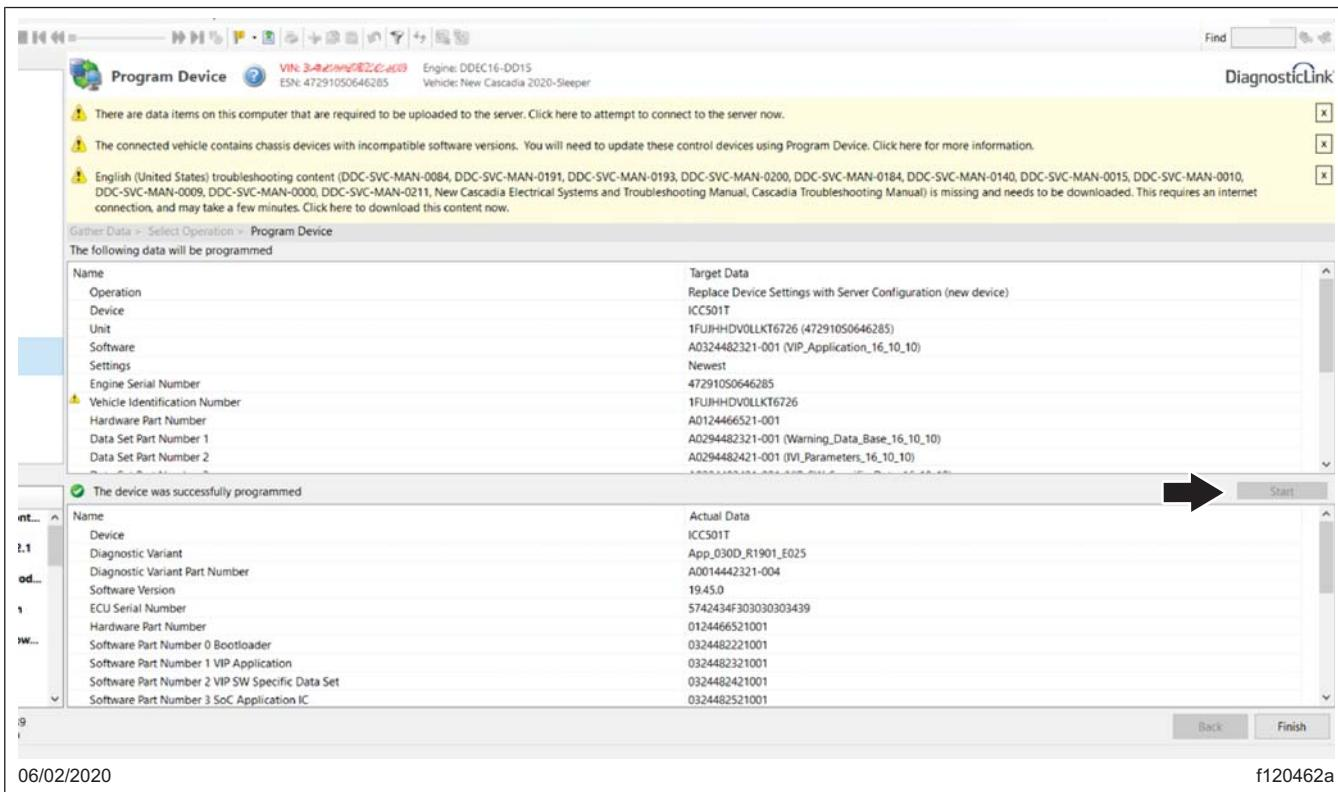

Fig. 20, Programming the ICC5
11. Review and verify the VIN and hardware part number. Click "Start" to program the controller. The software will be flashed and the new parameter set will be written to the controller on the vehicle. See Fig. 20.